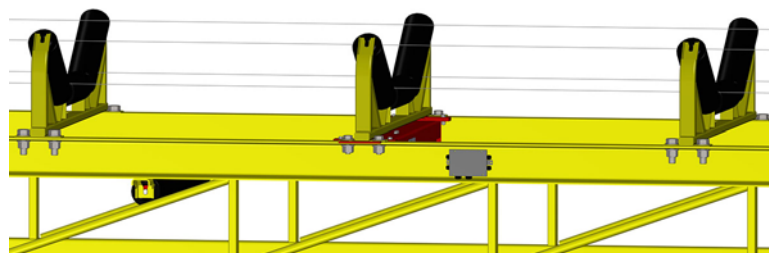

Figure 2-5. Run Strings To Same Plane
9. Run strings on the conveyor (three before the scale and three past the scale) and shim the idlers to the same plane. See Figure 2-5 on page 5.